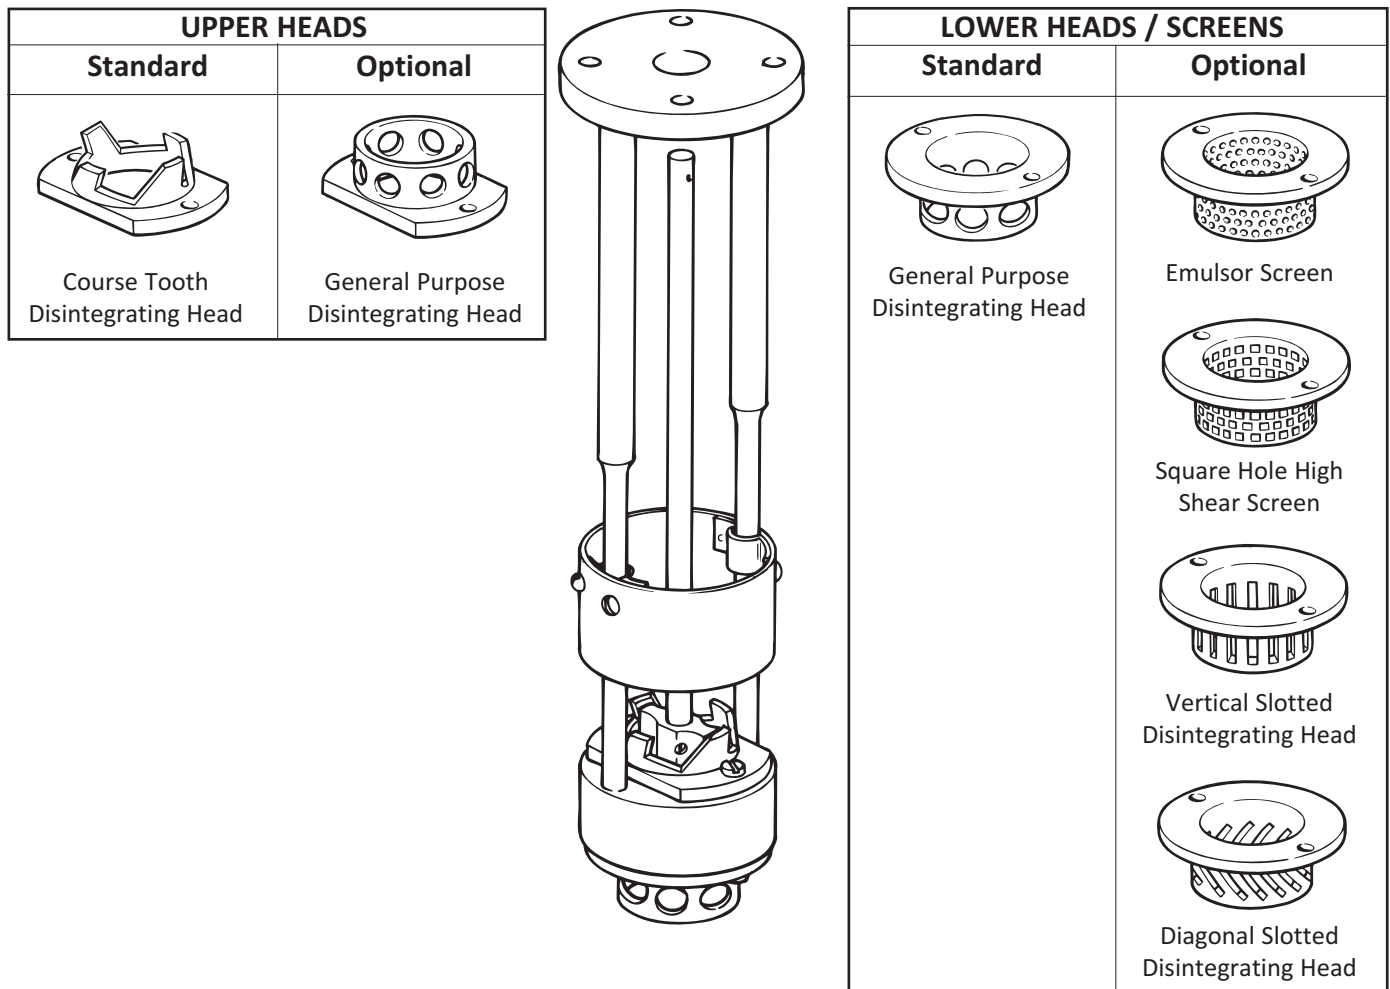

Fig. 7 Laboratory Duplex Mixing Assembly
4.7.1 Laboratory Duplex Mixing Assembly (Fig. 7)